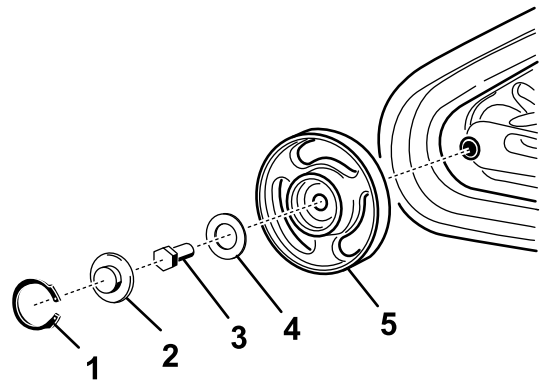

**Figure 58**
6. Push the front road wheel rearward as far as it can go (Figure 58).
8. When the track is off the road wheel, remove it from the machine (Figure 58).
9. Beginning at the drive wheel, coil the new track around the wheel, ensuring that the lugs on the track fit between the spacers on the wheel (Figure 58).
10. Push the track under and between the rear and center road wheels (Figure 58).